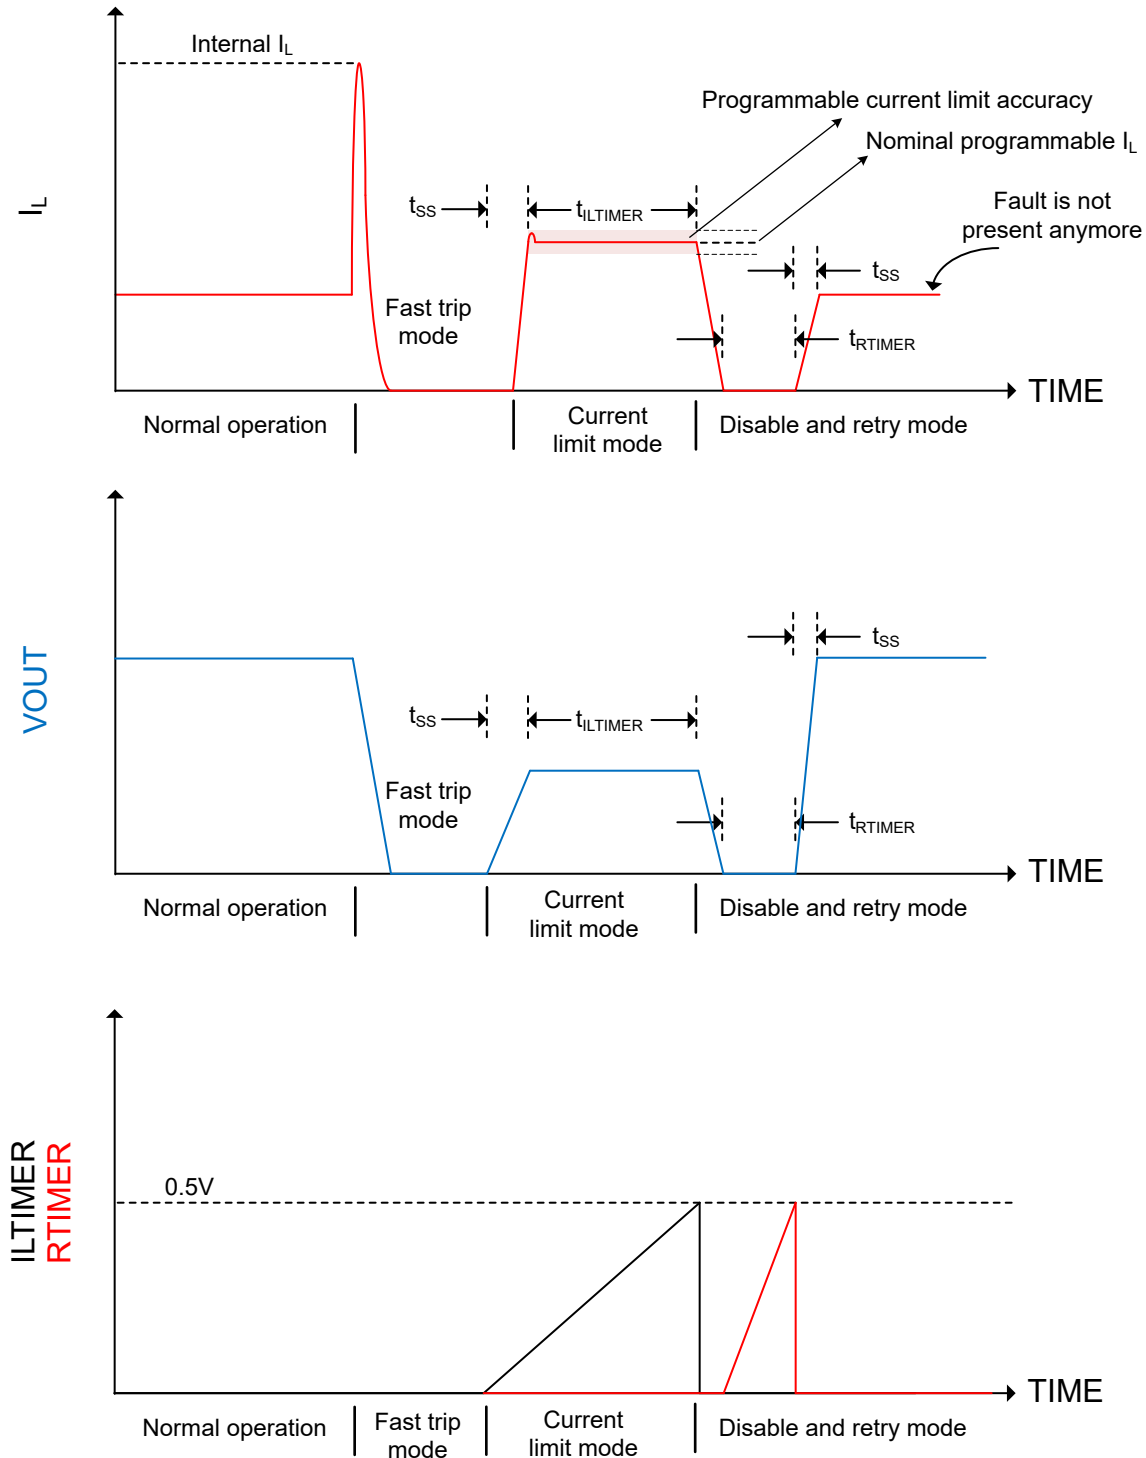

Figure 8-4. Hard Short Programmable Fault Timer Operation Connecting Capacitors to ILTIMER and RTIMER Pins
This programmable current limiting feature is different from the internal current limiting activated during fast trip mode as shown in Figure 8-4. A current limit event in this case is defined as a hard short and this current limit (typical of 22A) cannot be programmed.
- Figure 8-4: Single hard short event using the current limit timer and the retry timer.
The behavior of the ILTIMER and RTIMER pins for a hard short (one in which the fast current limit responds before the programmable current limit has time to respond) is shown in Figure 8-4. In this figure, the fault is assumed to not be present after the switch has been disabled and enabled again (retry mode). If the fault is present after the retry mode, the device goes into current limit mode and this cycle repeats until the fault is no longer present.